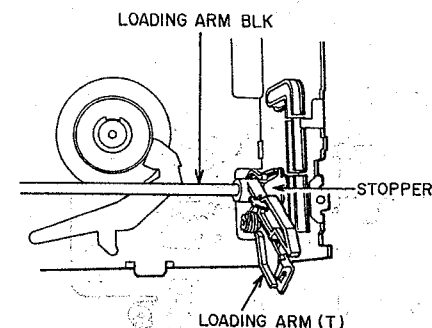

Fig. 3-2
- 1) Release the stopper on the right side end of the LOADING ARM BLK's shaft (Refer to Fig. 3-2) by pressing the stopper tab with a flat head (→) screwdriver. Then remove the shaft's right end from the bracket.